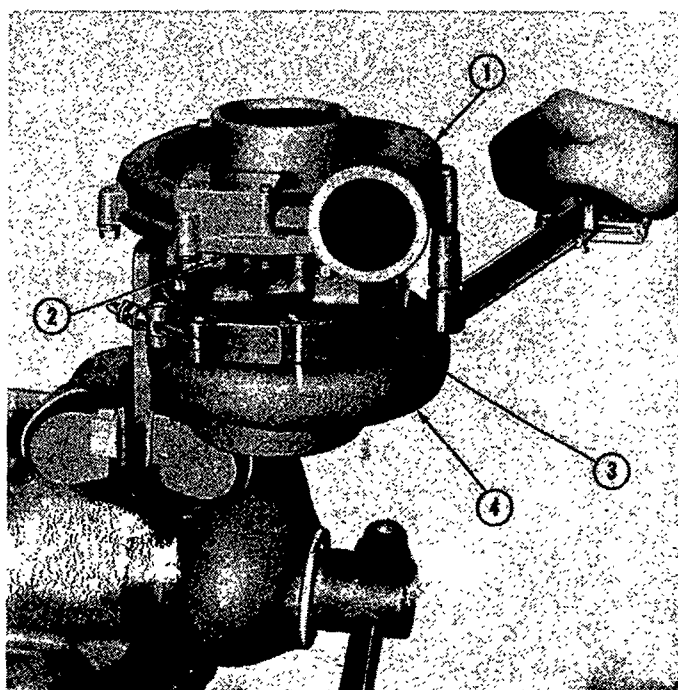

Figure 12
15. Clamp the turbine housing in a vise as shown in Figure 12.
Position the compressor cover on the bearing housing aligning the reference marks as shown in Figure 12.